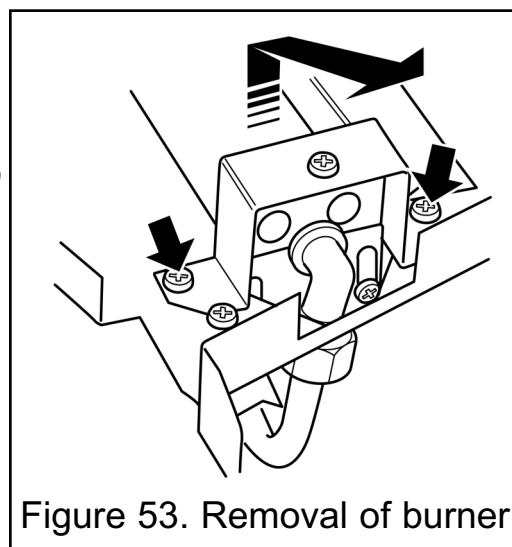

Figure 53. Removal of burner
(See figure 53).
3. Remove the two screws from the burner clamping plate (See figure 53).